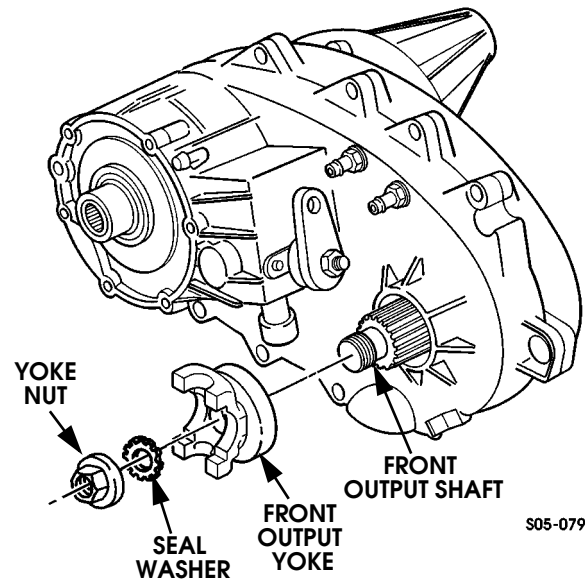

Figure 5-170: Front Yoke Installation
42. Check seal contact surface of front yoke. Smooth surface with 320-400 grit emery if necessary. Then lubricate seal surface with Dexron III and install yoke, new seal washer, and new yoke nut. Tighten yoke nut to 130-200 lb-ft (176-271 N•m). Use yoke tool J8614-01 to hold yoke while tightening nut (Figure 5-170).